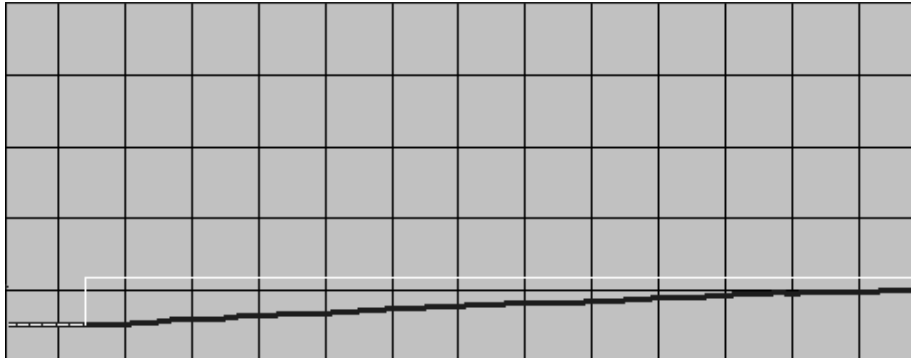

Figure 8: Effects of the Proportional Term (Low Proportional Term)
When the Proportional (P) term, or gain, is multiplied by the error signal, a proportional valve drive signal results. The higher the Proportional (P) control, the greater the change in valve drive signal for a given error signal. Typically, a higher Proportional (P) control setting yields a faster response. However, too high a Proportional (P) control setting will cause the mass flow rate to oscillate around the setpoint. Too low a Proportional (P) control setting will result in a slow response from the MFC. Figures 8 and 9 show the effects of the Proportional (P) term.